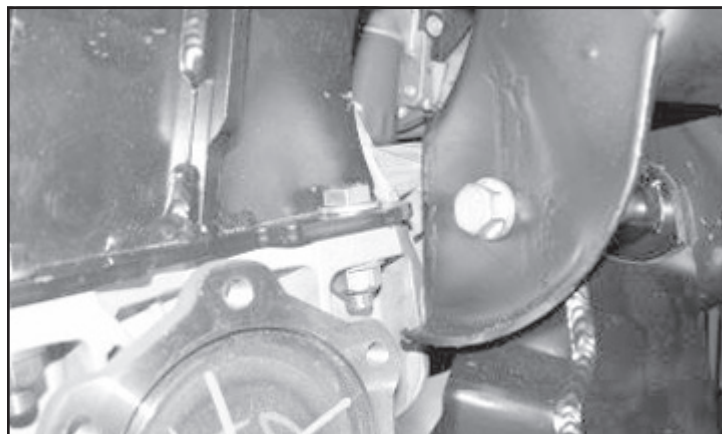

FIGURE 25 - STEP 20
20. Locate and install FT20611BK rear crossmember into the factory lower control arm pockets using the stock hardware and leave loose at this time. **(CHECK THE CLEARANCE OF THE DIFF TO CROSSMEMBER WHERE IT WAS SANDED DOWN IN STEP #17 FOR ADAQUATE CLEARANCE TO THE FRAME AND CROSSMEMBER).** SEE FIGURE 25